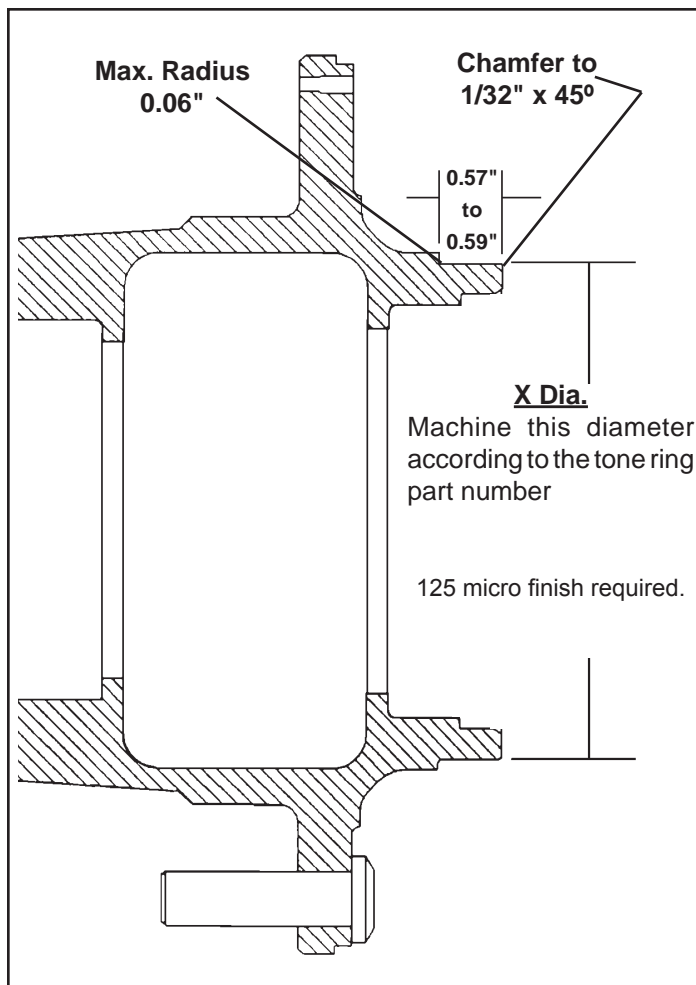

FIGURE 10 - MACHINING HUB FOR TONE RING INSTALLATION
2. Non-ABS hubs can be retrofitted with tones rings by machining the hubs to the dimensions shown in Figure 10. The tone ring is selected according to the hub manufacturer and part number. The hub is then machined to mate with the inside mounting surface of the tone ring. A minimum interference fit of 0.004 inches must be achieved for the tone ring to stay securely mounted over the life of the vehicle.